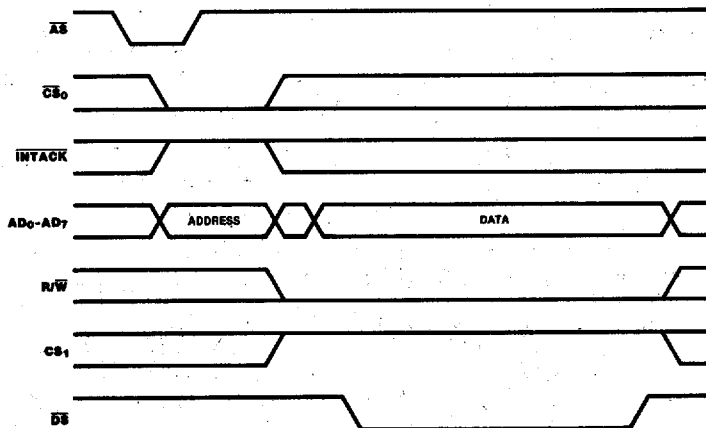

Figure 16. Write Cycle Timing
**Write Cycle Timing.** Figure 16 illustrates Write cycle timing. The address on  $AD_0$ - $AD_7$  and the state of  $CS_0$  and  $\overline{INTACK}$  are latched by the rising edge of  $\overline{AS}$ .  $R/\overline{W}$  must be Low to